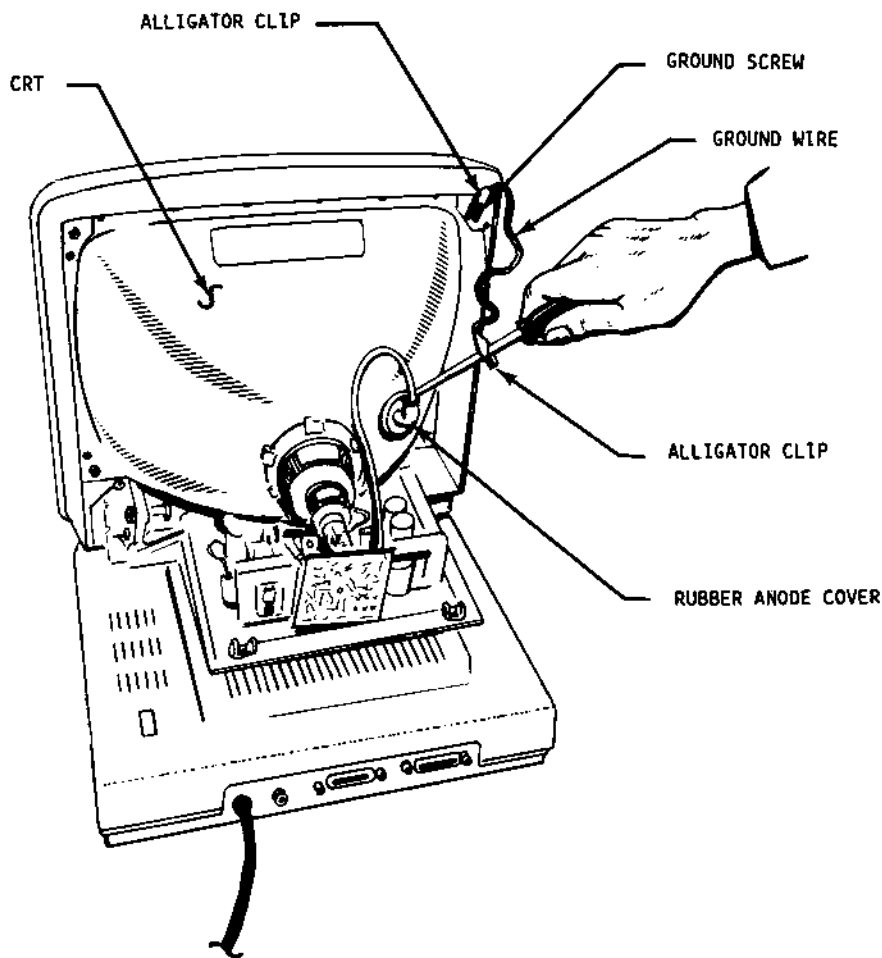

Fig. 4-4 Discharging the CRT
2. Using a wire lead with an alligator clip on each end, connect one alligator clip to ground screw and the other clip to a flat-blade screwdriver with an insulated rubber handle (Fig. 4-4).